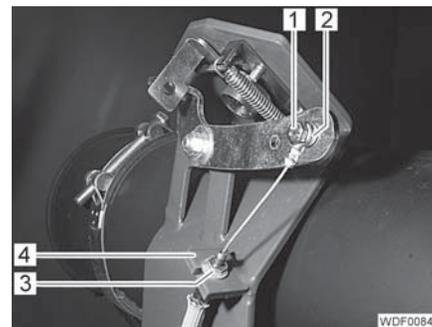

Fig. 3 Locking mechanism of engine hood
- Unscrew the screw (Fig. 3,1).
- Undo the nut (Fig. 3,3).
- Remove the Bowden cable (Fig. 3,2) upwards out of the holder (Fig. 3,4).